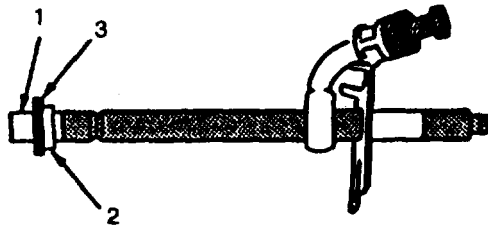

FIGURE 3-93. Fuel Injection Nozzle Seals
- a. Position protector cap (1, FIGURE 3-93) over nozzle tip. A nozzle protector cap can be found on every new or replacement nozzle.
- b. Position a new carbon stop seal (2) on protector cap. Use a new seal washer (3) to help slide the carbon seal (2) into place until it seats in its groove on nozzle body.
- c. Continue to slide seal washer (3) onto nozzle body until it seats against inlet fitting.